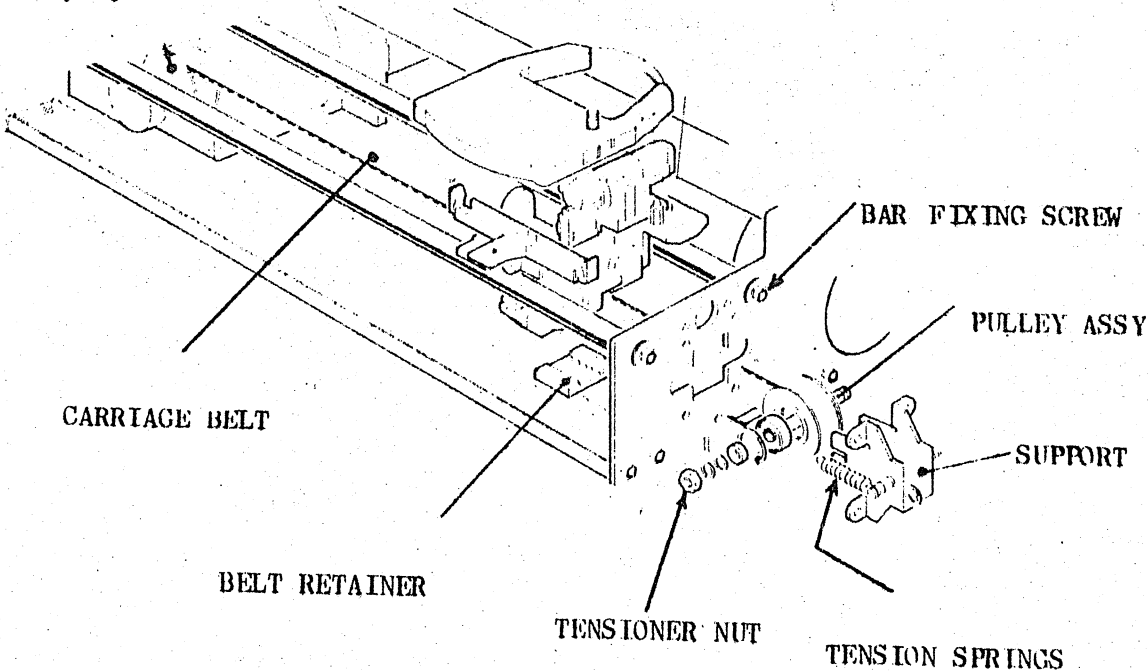

FIG. 8.21
- . Loosen the tensioner nut (See fig. 8.21)
- . Mount the fixing plate of the belt located under the print head. See fig. 8.21.
- . Mount the belt fixing plate under the print head (see fig. 8.21).